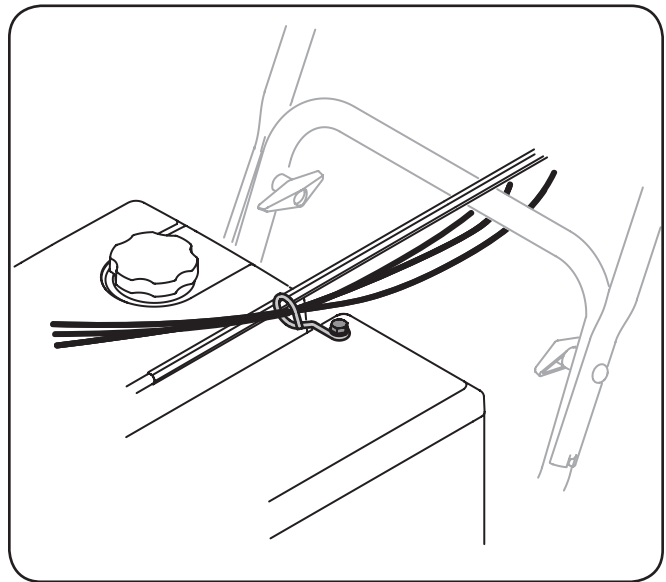

Figure 3-10
7. Check that the cables are properly routed through the cable guide on top of the engine. See Figure 3-10.
A pair of replacement auger shear pins and bow tie cotter pins are included with your snow thrower. Store them in your snow thrower's dash panel until needed. See Figure 3-10.